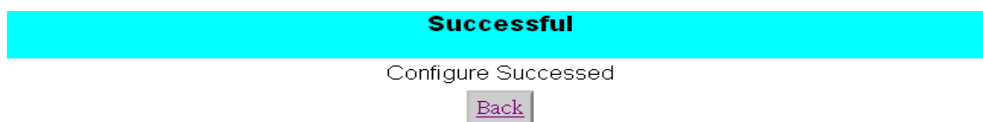

Figure 3.25 Configure success
- If the update is successful, the following screen appears. (Figure 3.25)